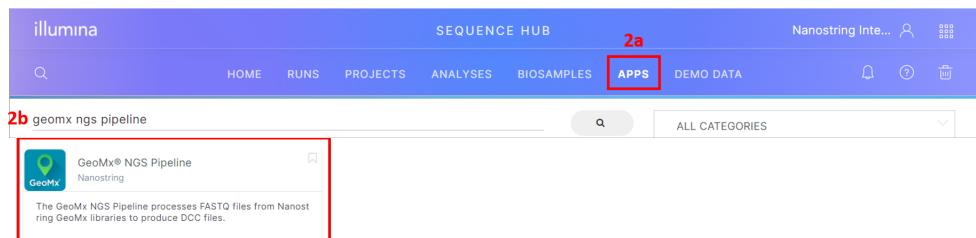

Figure 14: Find GeoMx NGS Pipeline application
2. Select Apps then search for GeoMx and select GeoMx NGS Pipeline (see Figure 14).